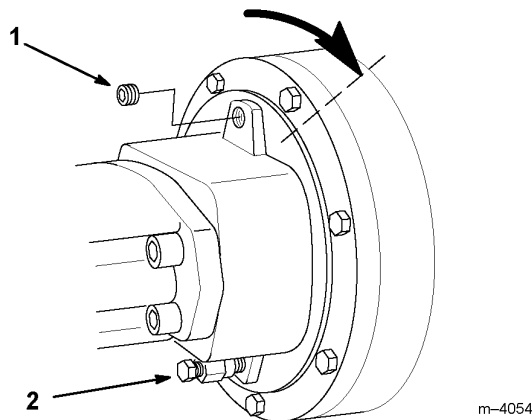

Figure 10
2. Rotate the drive head so that the oil drain plug is located on top and the breather plug is on the bottom (Fig. 10).
3. Remove the oil drain plug (Fig. 10)
4. Rotate the auger drive head so that the drain opening is at the 2 o'clock position (Fig 10). Oil should just begin to come out of the opening.
1. Support the drive head over an oil pan so that the oil drain plug (Fig. 10) is on the bottom of the drive head, facing the oil pan.